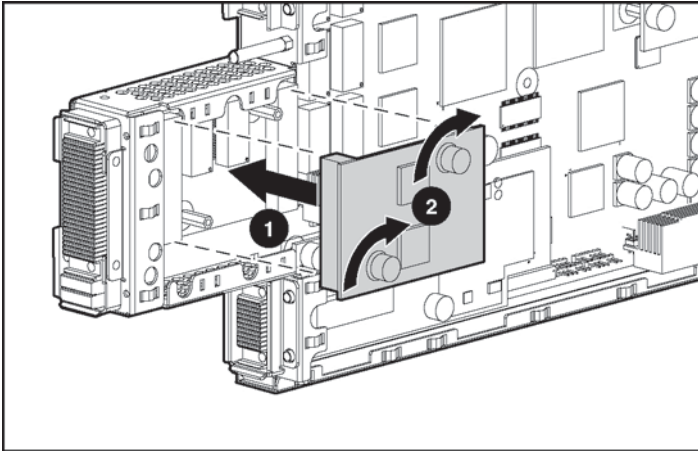

Figure 5 FC signal conditioning card installation
4. Install the FC signal conditioning card if one is not already installed. See Figure 5.